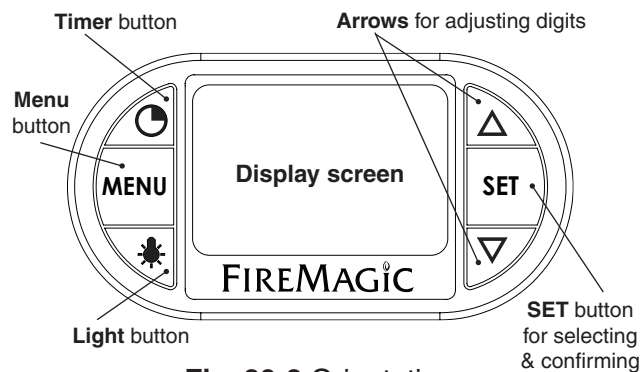

Fig. 30-2 Orientation
Read the following sections completely regarding thermometer operation. Refer to Fig. 30-2 for thermometer orientation and button locations.
1. Press the light button to turn both the interior oven lights and knob backlights **ON** (see Fig. 30-2). The interior oven lights will remain **ON** when the hood is closed (for use of the Magic View window).